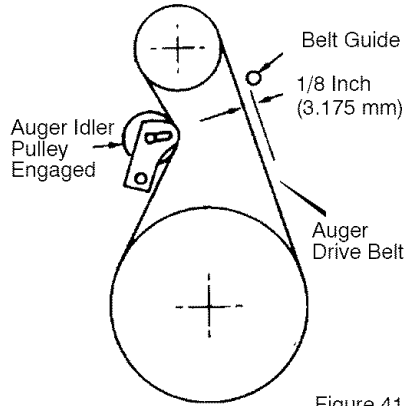

Figure 41
3. Measure the distance between the **belt guide** and **auger drive belt**. The distance should be 1/8 inch (3.175 mm). See Figure 41.